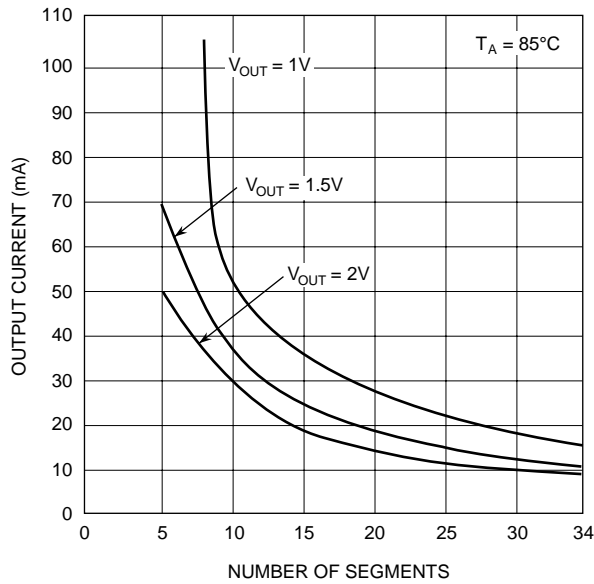

Figure 7.
**Note 3:** See Figures 7, 8 and 9 for recommended operating conditions and limits. Absolute maximum for each output should be limited to 40mA.
The above equation was used to plot Figures 7–9.